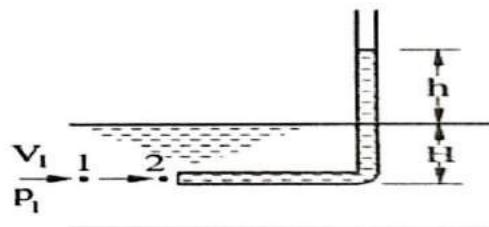

Fig. 5.7 Pitot tube
- In its simplest form, the Pitot tube consist of a glass tube, bent at right angles as shown in fig. 5.7.